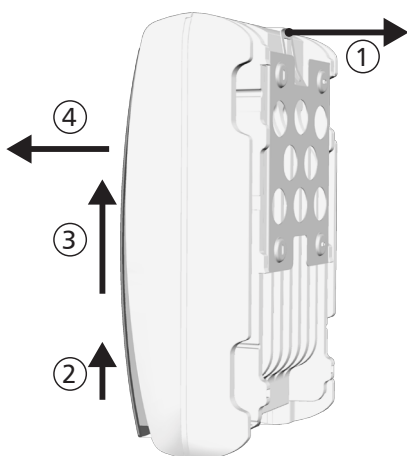

Figure 32
1. Use one hand to press the retaining plate on the mounting plate approx. 5 mm (0.20 in) towards the mounting surface ① (Figure 32).
2. Use the other hand to push the inverter upwards, far enough so that the retaining plate no longer latches. ② Release the retaining plate.
3. Lift the inverter with both hands until the hooks on the rear side of the inverter are free ③
4. Remove the inverter from the mounting surface ④